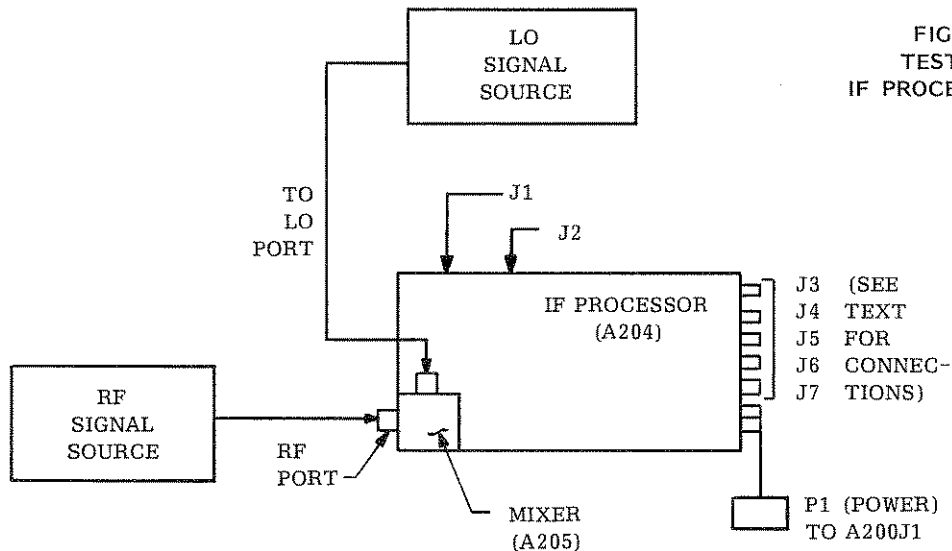

FIGURE 5-3
- e. Apply a 0 dBm signal in the 1 - 18 GHz range to the Mixer RF input port (see Figure 5-3). Monitor DC output with oscilloscope at IF converter port (connector that plugs into IF Processor). A DC voltage between 50 and 250 mV should be indicated.
- c. Connect IF Processor to two signal generators as shown in Figure 5-3. Terminate A204J3 in 50 ohms.
- f. Set LO signal source for 1 GHz  $\pm$  1 MHz at -16 dBm, and apply to LO Mixer port (see Figure 5-3).